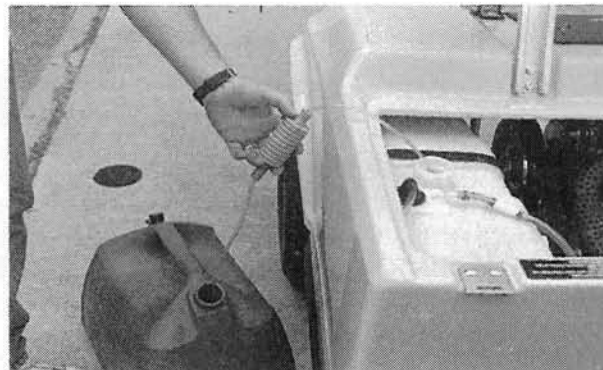

Figure 11
2. Using a siphon with a suction device, drain all of the gasoline out of the tank and into an approved gasoline container. (See Figure 11.)